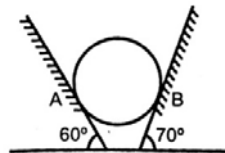

Fig. No.3
- b) Calculate the reactions offered by surfaces, as shown in Fig. No.3 if a cylinder weighing 500 N is resting on those surfaces inclined at 60° and 70° with horizontal.